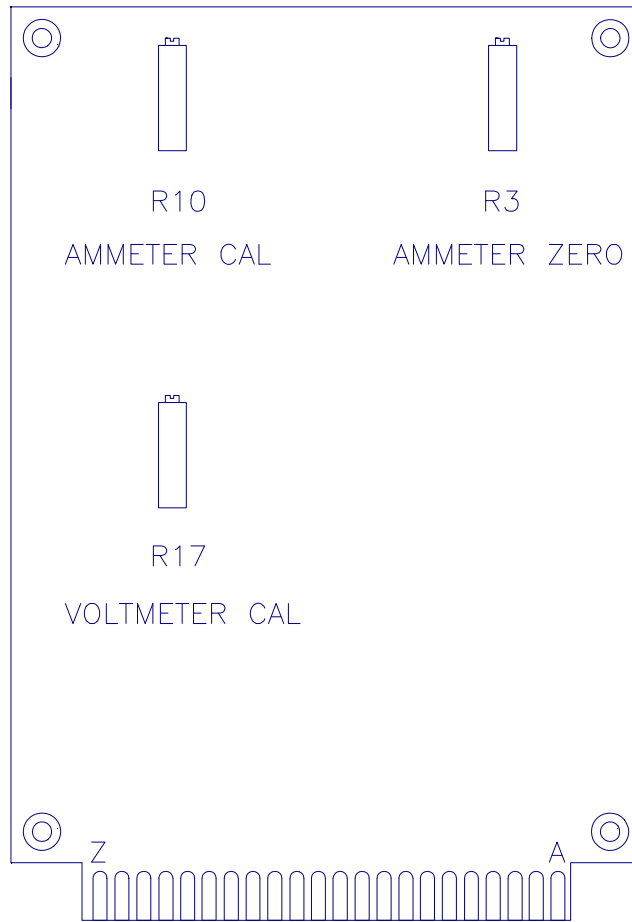

Figure 6 - Meters Board Adjustments (rear view)
9.2 DIGITAL METERS (see [Figure 6]).